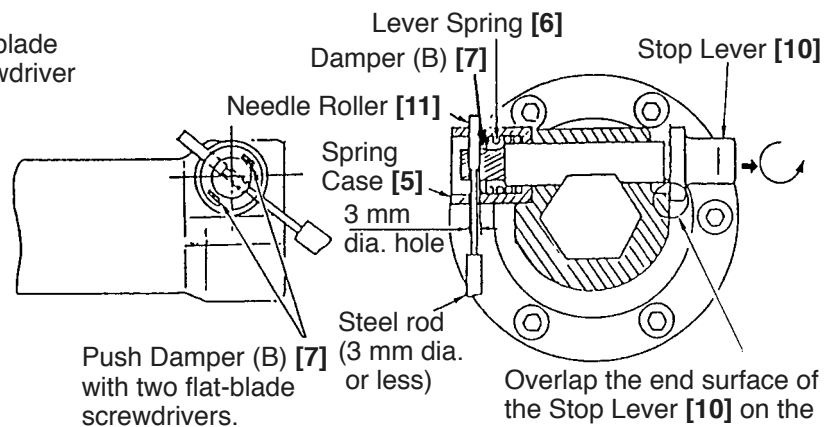

Fig. 7
Disassembly procedures are illustrated in Fig. 7. Pull the Stop Lever [10] outward in the direction indicated by the arrow, and turn it slightly so that its end surface comes to rest on the flange portion of the Front Cover [8]. Next, turn the Spring Case [5] so that the holes of the Spring Case [5] are aligned with the Needle Roller [11]. Then, push in Damper (B) [7] with flat-blade screwdrivers to compress the Lever Spring [6]. Finally, while keeping the lever spring compressed, fit a 3 mm dia. or less steel rod into the hole of the Spring Case [5], and push out the Needle Roller [11]. The Stop Lever [10], Damper (B) [7], and the Lever Spring [6] can then be taken out.